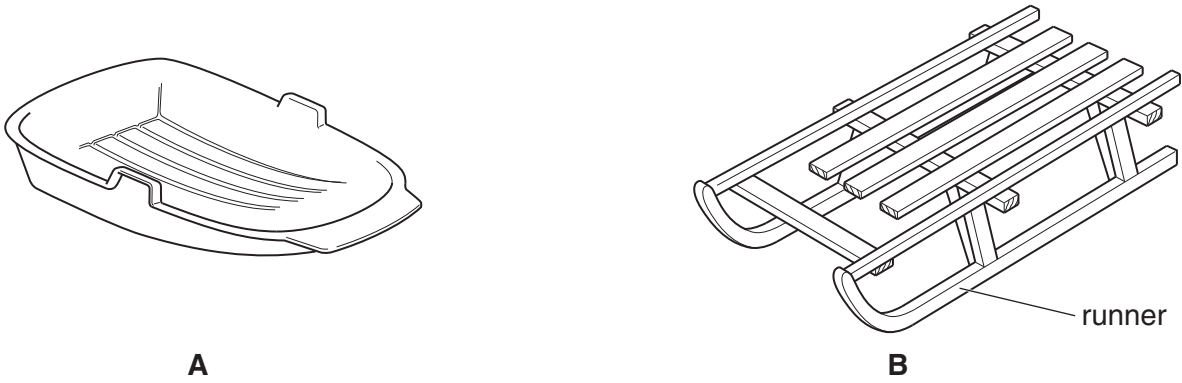

Fig. 7
- 5 Fig. 7 shows two toboggans.